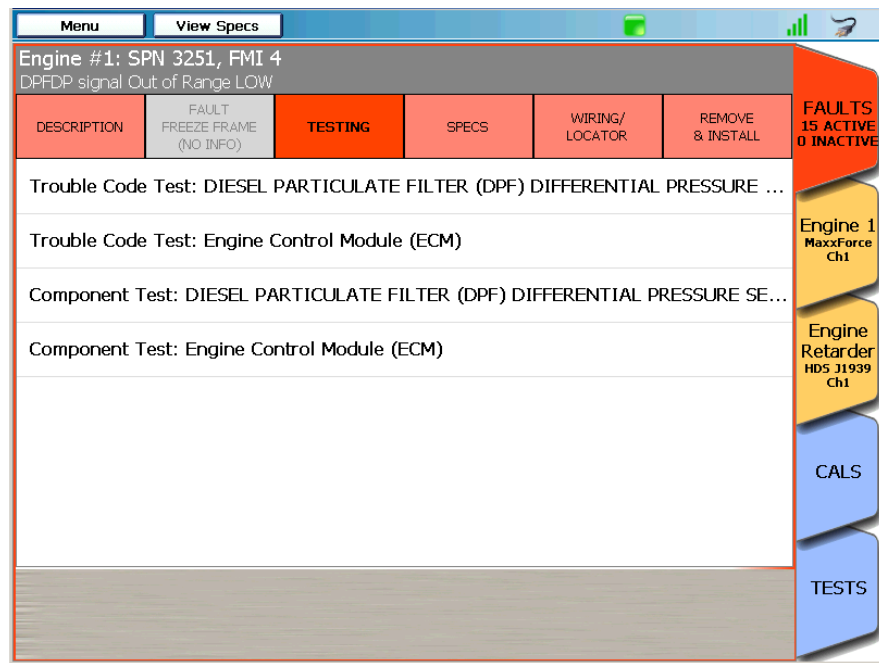

Figure 6.9 TESTING Tab Activated
- Touch the green **Back Arrow** to go back to the list of tests (Figure 6.9).